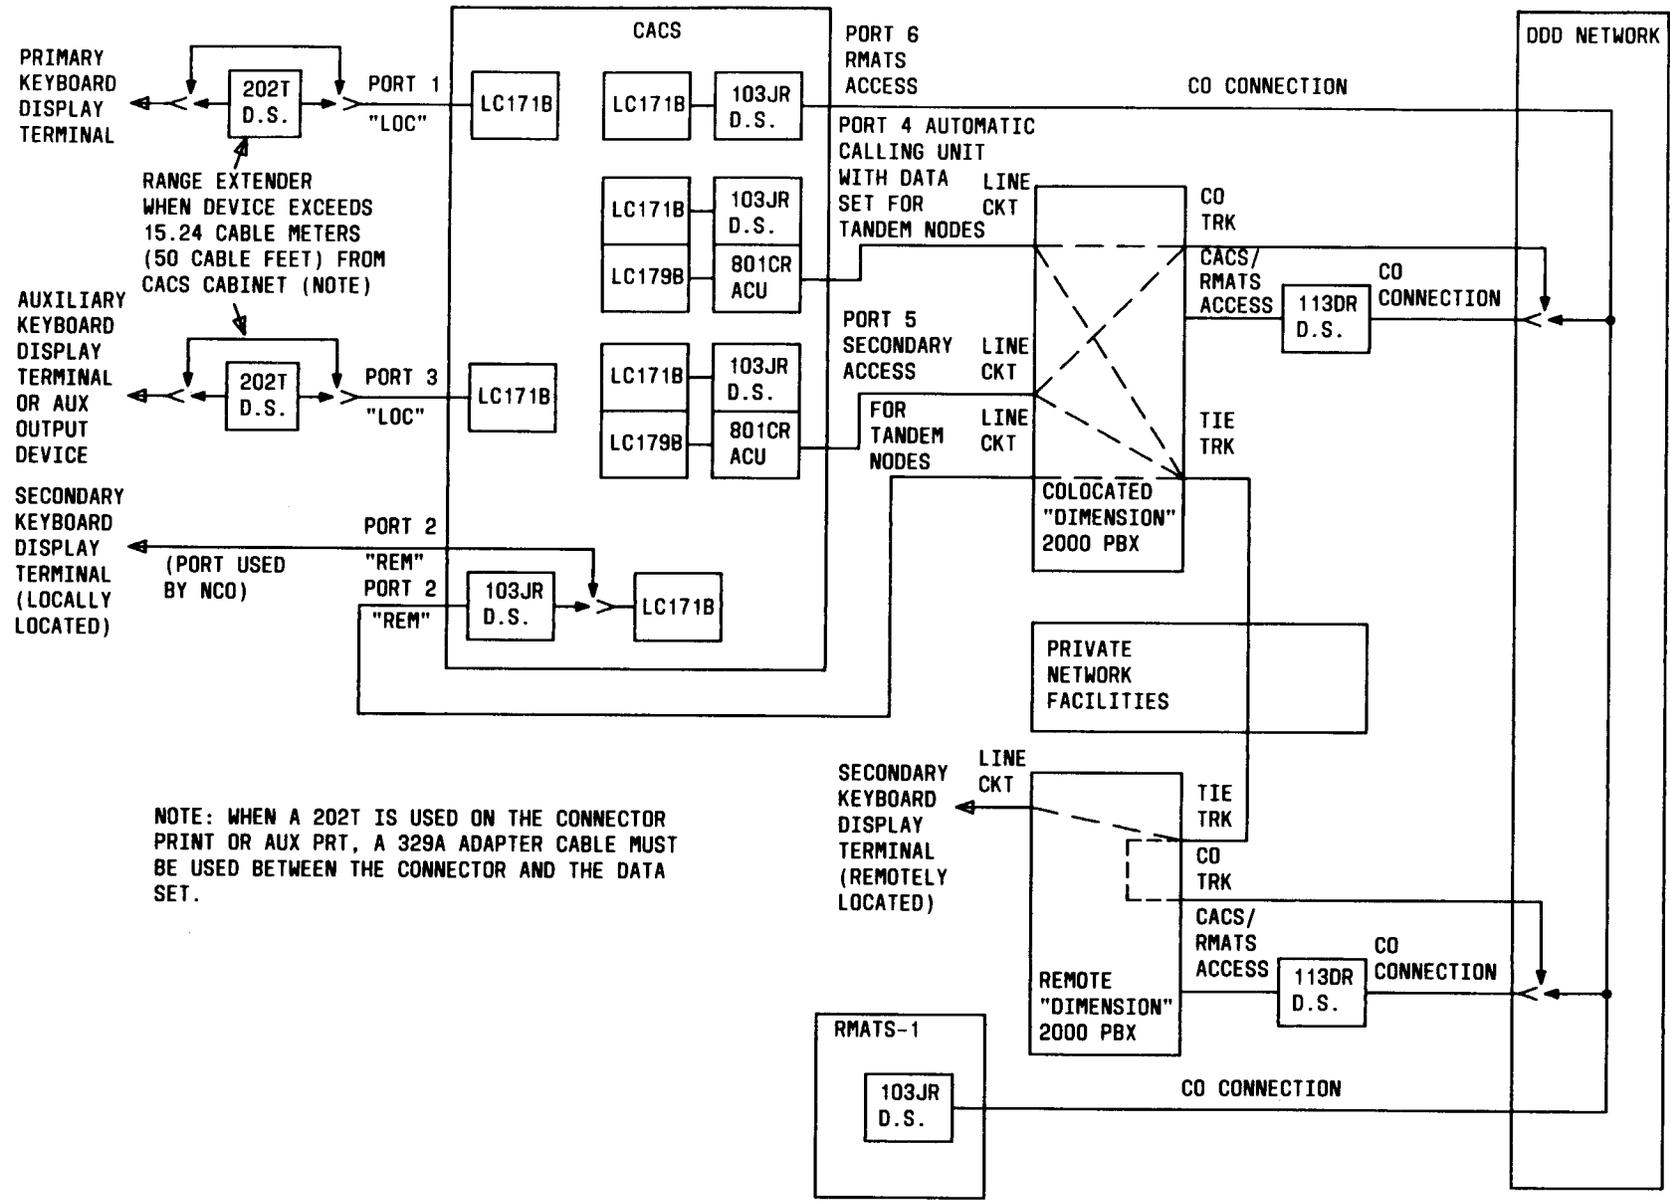

Fig. 1—Basic CACS Arrangement
**2.04** The CACS has a total of six data ports (see Fig. 1). Ports 1, 4, and 6 are required as part of the basic system. Ports 2, 3, and 5 are optional. These ports are listed below: